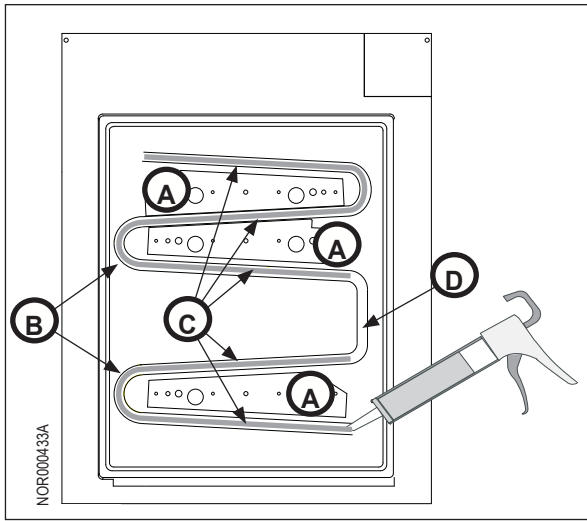

Fig. 12 - Mastic application on new cooling unit
4. Use mastic to apply bead 1/2 inch wide and 3/8 inch thick (Fig. 12,C) to evaporator tubes (Fig. 12,B) that mate with evaporator plates (Fig. 12,A).
Caution! Do not apply mastic to straight connector section of the tube (Fig. 12,D).